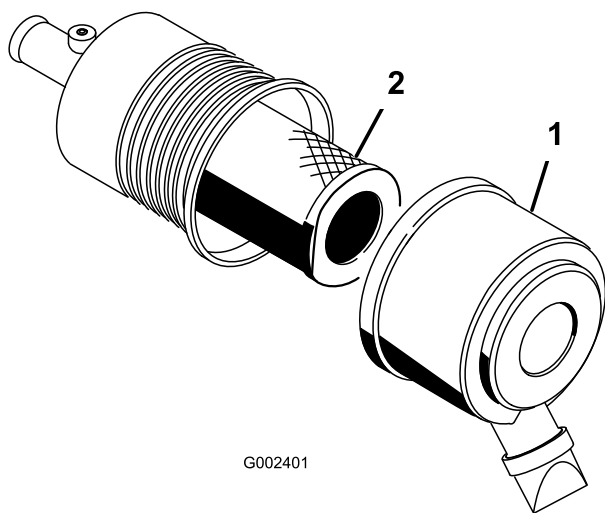

Figure 51
1. Release the latches securing the air cleaner cover to the air cleaner body (Figure 51).
2. Remove the cover from the air cleaner body (Figure 51).
4. Remove and replace the filter (Figure 51).